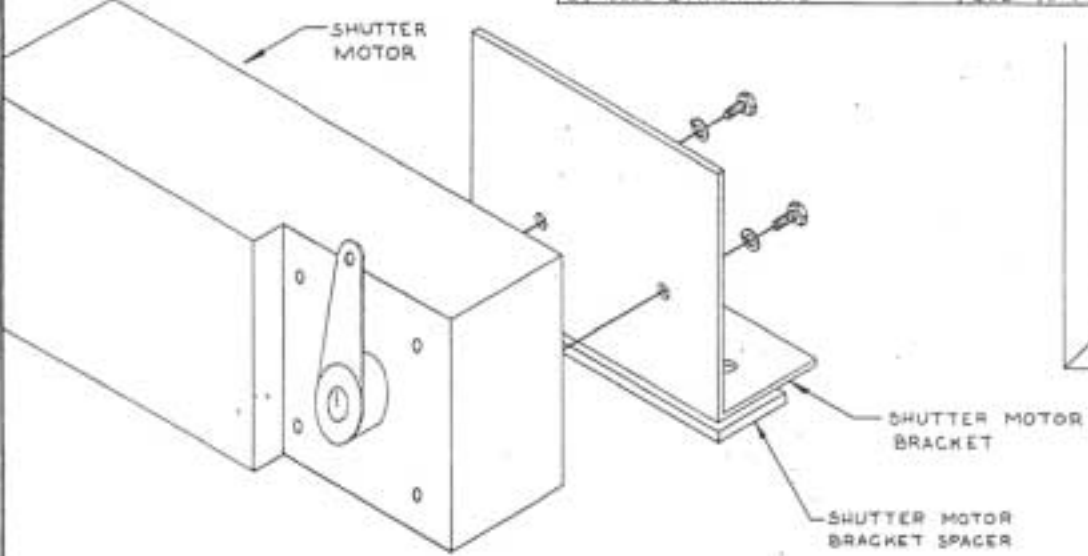
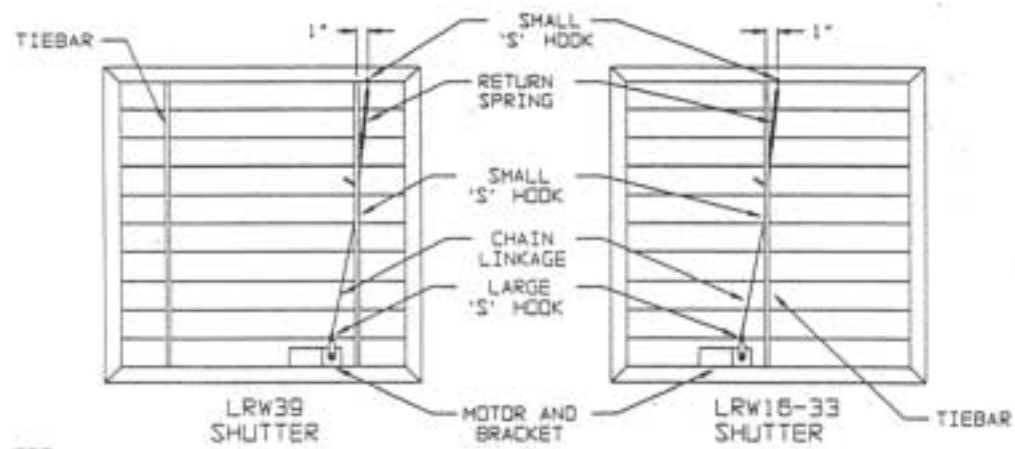

FIGURE 2
FIGURE 3
2. VERIFY THAT THE CRANK ARM IS MOUNTED ON THE MOTOR AS SHOWN IN FIGURE 2. IF NOT, THEN TURN CRANK ARM OVER TO MATCH FIGURE 2.
3. PLACE SHUTTER MOTOR BRACKET SPACER IN THE NOTCH ON THE INSIDE BOTTOM OF THE SHUTTER FRAME. MOUNT THE MOTOR BRACKET, WITH THE MOTOR ATTACHED, TO THE SHUTTER BY BOLTING THROUGH THE SHUTTER MOTOR BRACKET, THE SHUTTER MOTOR BRACKET SPACER AND THE DRILLED HOLES IN THE SHUTTER FRAME USING THE TWO (2) #10 BOLTS, LOCK WASHERS AND HEX NUTS SUPPLIED.
4. PLACE A SMALL S-HOOK IN THE HOLE IN THE TIEBAR APPROXIMATELY HALFWAY UP THE TIEBAR. MOVE THE CRANK ARM TO THE "UP" POSITION, AS IN FIGURE 3. WITH THE SHUTTER BLADES IN THE CLOSED POSITION, CUT THE CHAIN LINKAGE TO THE CORRECT LENGTH AND ATTACH IT TO THE S-HOOK IN THE TIEBAR. DISCARD EXTRA CHAIN LINKAGE AND S-HOOKS.